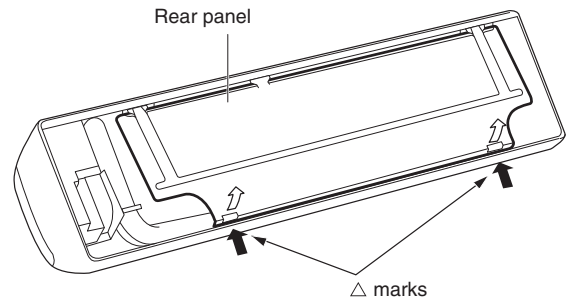

Fig. 1-55
- (2) Press the 2  $\Delta$  marks on the frame cover and disengage the stationary tabs from the frame. (Fig. 1-55)